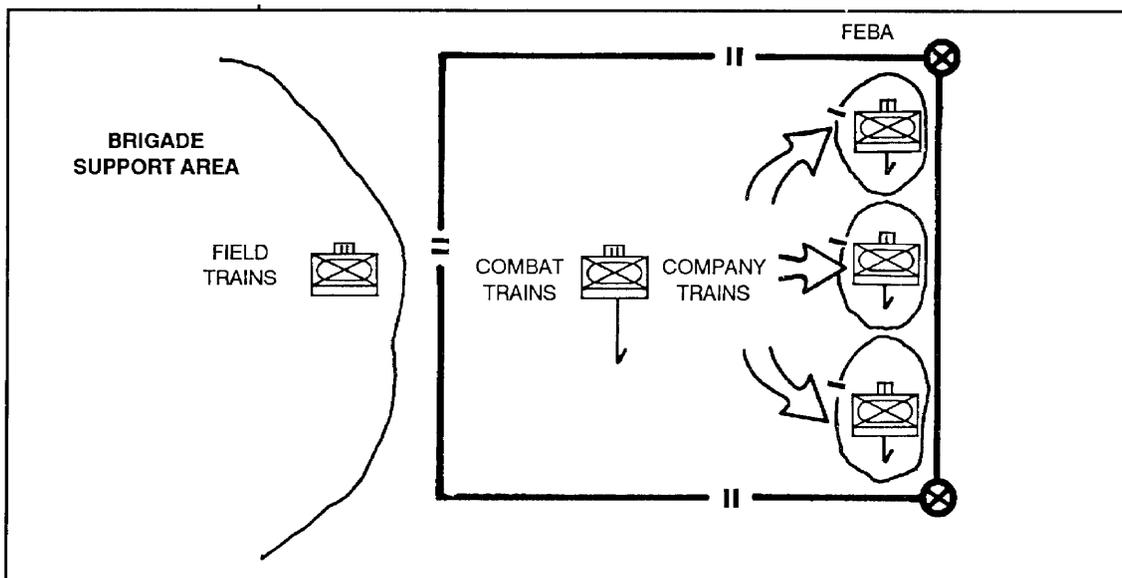

Figure 9-1. Field trains, combat trains, and company trains.
The field trains are where most of the battalion's bulk-loaded ammunition, fuel, food, and other supplies are kept until delivered forward by LOGPAC (Figure 9-1, see page 9-2).
Combat trains consist of the battalion S1, S4, the battalion aid station, some maintenance personnel and equipment, and some support platoon trucks loaded with fuel and ammunition (Figure 9-1).
- b. The company trains are normally located between ½ and 1 km or one prominent terrain feature behind the company/team in a covered and concealed position (Figure 9-1). During MOUT, they may be as close as one block behind the forward positions.